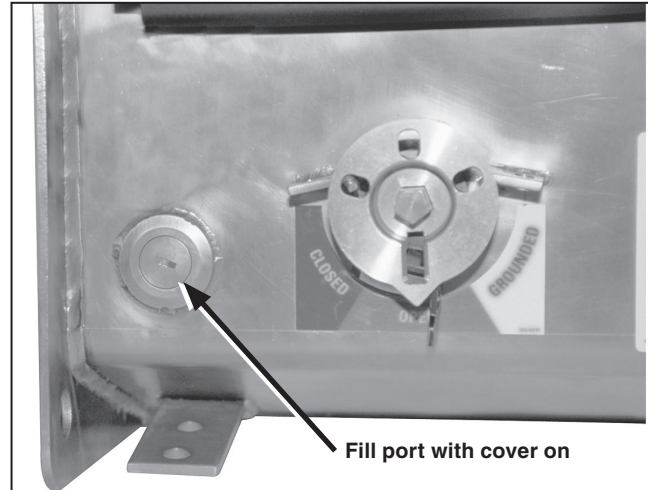

Figure 1. Location of fill port.
- STEP 1.** Locate the fill port cover in the top front corner of the operation compartment. Clean off all debris and dirt in the general area before removing the plug. Remove the plug using a screwdriver or S&C fill port tool number CU-5987, turning counterclockwise. See Figures 1 and 2.